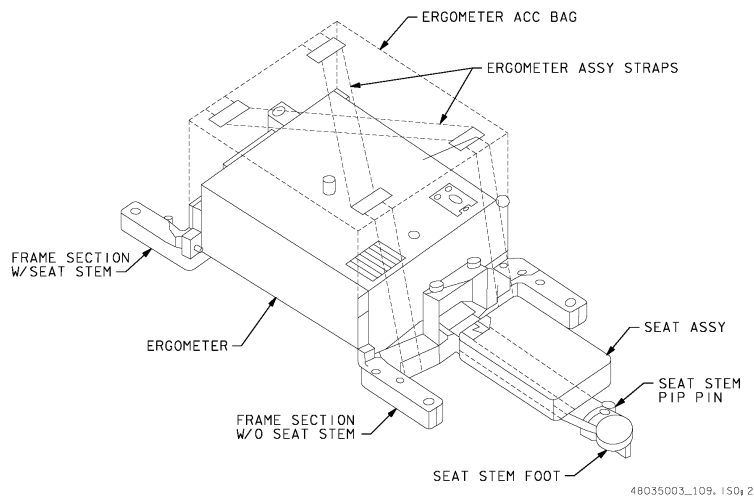

Figure 3-3.- Ergometer middeck launch/landing config (ergo assy).
11. Slide frame half, without seat stem, onto stem in launch/landing config (fig 3-3)
14. Attach Ergometer horizontally to frame with pip pins (fig 3-3)
18. Mount frame to launch/landing position in middeck using frame/AQDs (four), with seat stem facing forward (fig 3-3)
Using Ergo Assy Straps attach Ergo Acc Bag to Ergometer (fig 3-3)